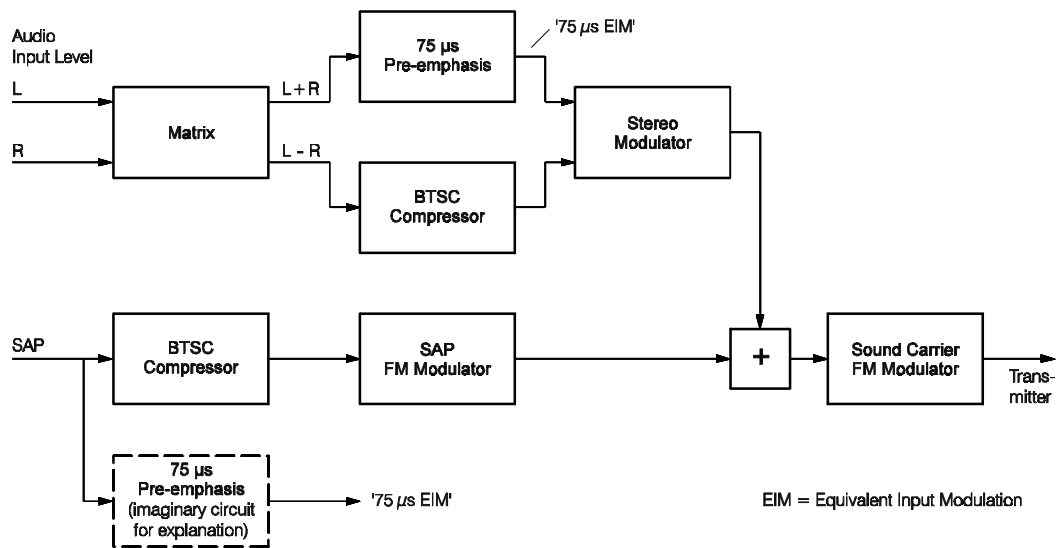

Figure 5-34. Simplified Diagram of a BTSC Transmitter System
The broadband baseband spectrum is transmitted using frequency modulation on the sound carrier (4.5 MHz). Due to the parabolic noise characteristic, which is typical for FM transmission systems, the noise level increases for higher frequencies. To improve the Signal-to-Noise Ratio of the L - R signal and the SAP signal, both channels are encoded by the BTSC Compressor; see Figure 5-34.
Figure 5-34 shows a simplified diagram of a BTSC transmitter system. The BTSC modulation standards and the maximum allowed peak deviations are shown in Table 5-15.
- The maximum allowed audio input level of 100% modulation ($100\% \hat{=} 0$ dB) is frequency dependent due to the $75 \mu\text{s}$ pre-emphasis; see Figure 5-34.
This is used as a reference and determines the modulation level that would occur for the equivalent Mono signal processed using a $75 \mu\text{s}$ pre-emphasis, see Figure 5-34.